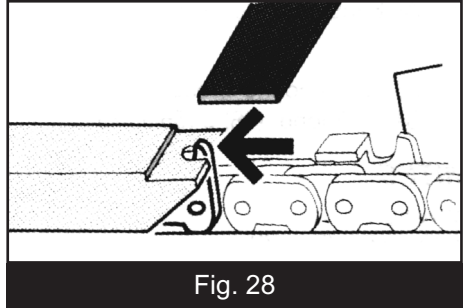

Fig. 28
5. If after sharpening a few times, the depth gauge protrudes from the template, you must reset its level using a flat file. (Fig.28)